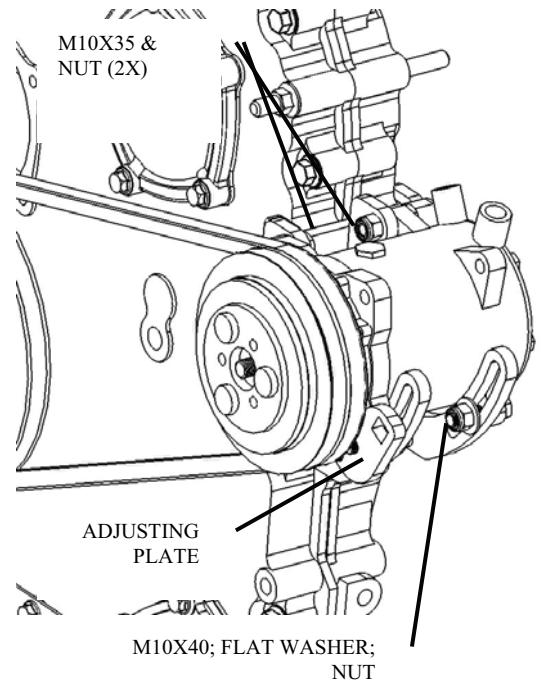

FIGURE 2
4. Be sure hose is routed continuously downward with no up-hill sections. Secure to refrigerant hoses with nylon ties. Do not over-tighten nylon ties and collapse drain hose. See figure 2
1. Install compressor over compressor mount bracket. Use M10x35 bolts and locking nuts on the two upper pivot holes. FIGURE 2
2. Use M10x40mm bolt with a flat washer and locking nut on the rear slide ear and an M10x40mm bolt with a flat washer and the compressor adjusting plate on the front slide ear. (Note: a flat washer must cover both slide ears and neither of the front mounting bolts can contact the compressor pulley.) FIGURE 2